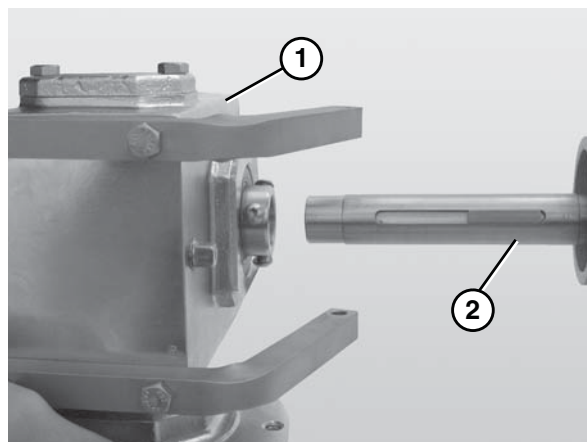

Figure 16
2. Slide the gear reducer (Figure 16, item 1) onto the drive spindle (Figure 16, item 2).